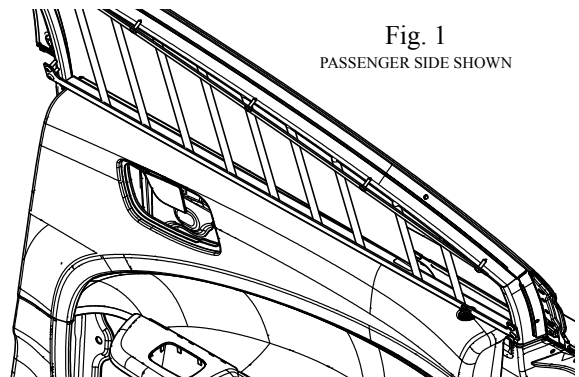

Fig. 1
1. From the inside of the door place the Armor into the corresponding window opening with the lower flange resting on the top of the OEM Door Panel. Insure that the rear flange is installed behind the OEM Door Panel and between the rubber window seal (See Fig. 1).